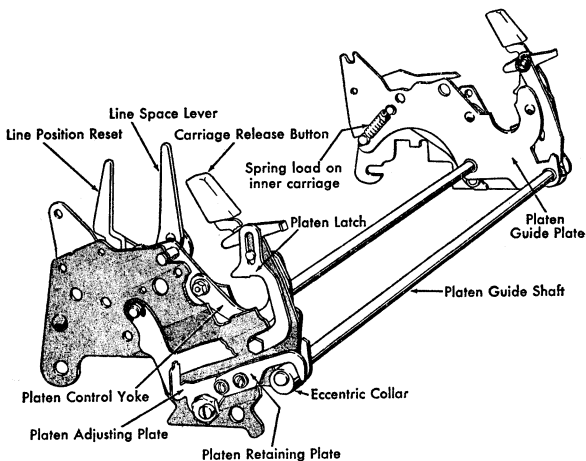

Figure 16. Carriage Adjustments
1. Remove the platen and both platen retaining plates (Figure 16).
2. Remove the front rail dust cover and eccentric collar from the left end of the platen guide shaft (Figure 16).
5. On machines which have no carriage side-frame eccentric nuts, a spring connects the inner carriage to a stud on the outer carriage at each end. This must be unhooked (Figure 16).
1. **PLATEN LATCH ECCENTRICS.** Adjust eccentrics to just (Figure 16) eliminate the up or down movement of the platen bushings. They must not be adjusted too tight or the platen will be difficult to latch or unlatch.
2. **PLATEN CONTROL YOKES.** Adjust the yokes (Figure 16) by loosening the front and rear screws and turning the
3. PLATEN RETAINING PLATES. Position the plates to hold the eccentric collars on the ends of the platen guide shaft tightly against the platen adjusting plates (Figure 16). When making this adjustment the multiple copy control lever must be forward.